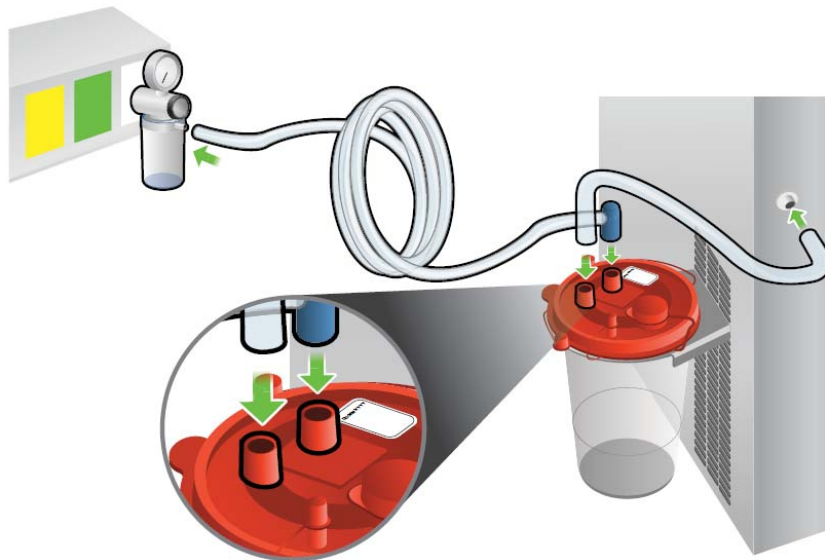

Figure 10: Connection of Aerosol Collection Set to 3T and vacuum source
- a. The Aerosol Collection Set is attached to the 3T Heater-Cooler System water overflow port located on the back of the machine. The aerosol collection canister is connected to the available OR vacuum source. The use of a vacuum source water trap is required to collect formed condensation. See Figure 10.